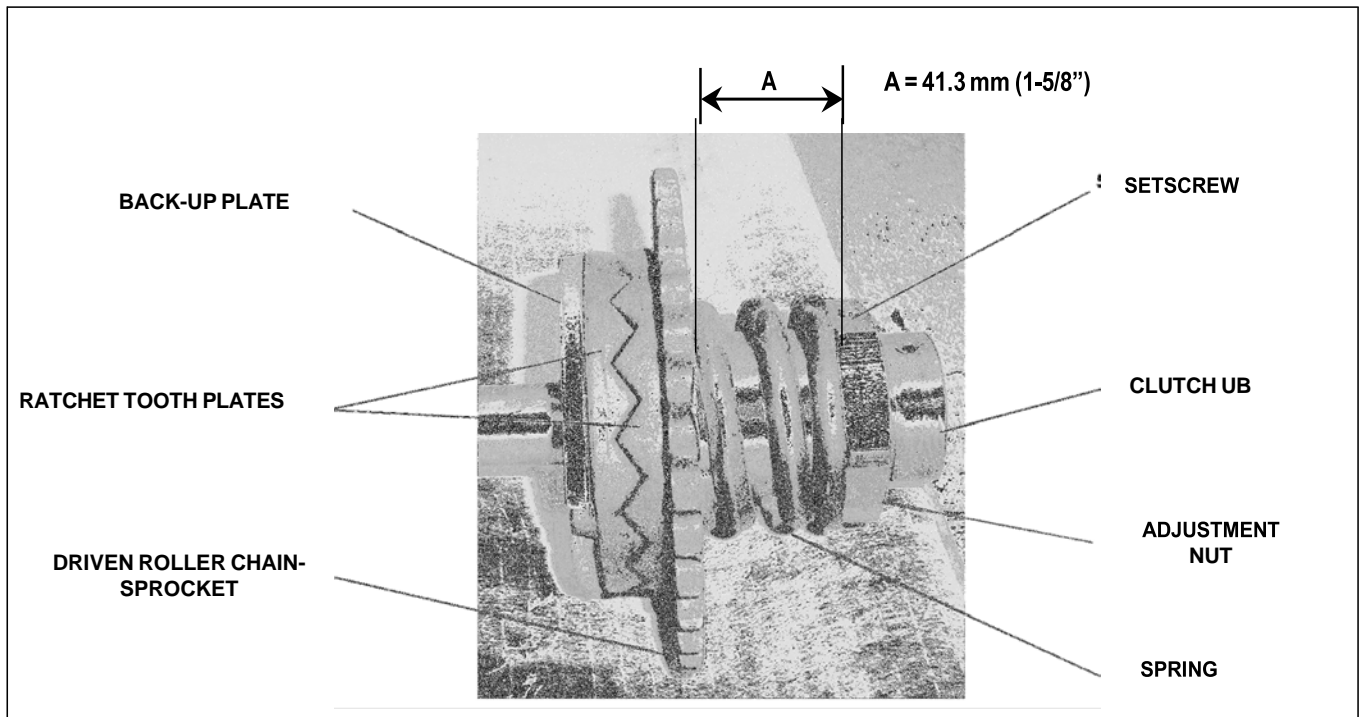

Figure 3. Ratchet Slip Clutch
This unit is preset at Jorgensen Conveyors, and should only require resetting if clearing an overload does not stop the ratcheting. Refer to Figure 3 and proceed as follows:
**NOTE:** The ratchet slip clutch is preset at Jorgensen Conveyors to 1-5/8" (41.3 mm) (A, Figure 3). Do not compress the spring to anything less than 1-1/2" (38.1 mm) as this will disable the clutch.